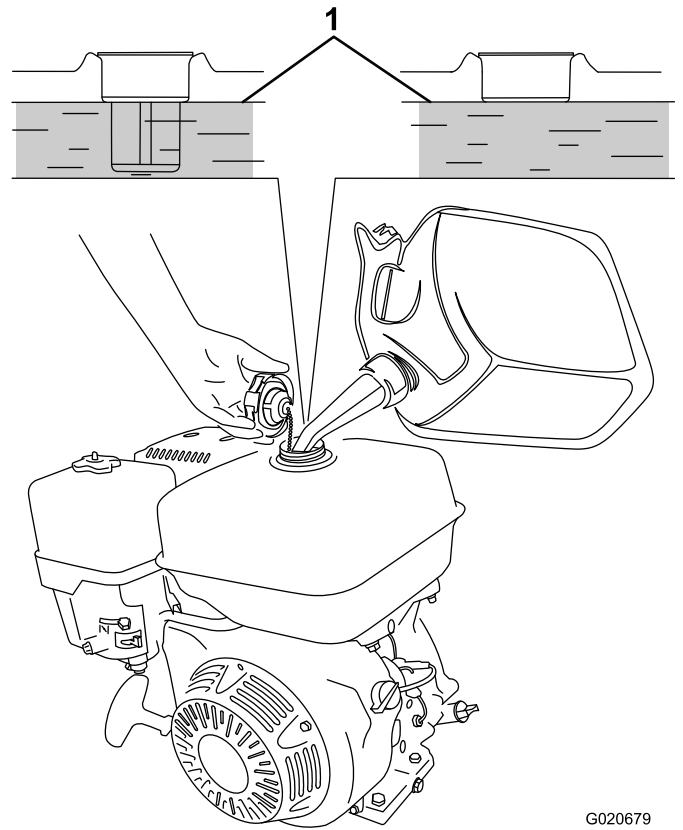

Figure 8
3. Add fuel to the fuel tank until the level is at the maximum fuel level (Figure 8).